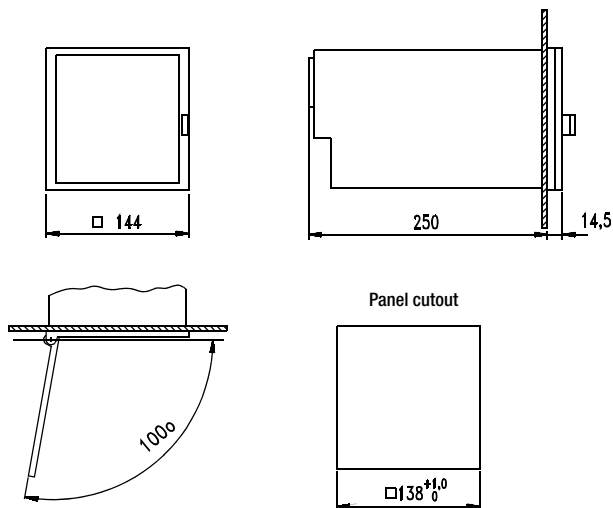
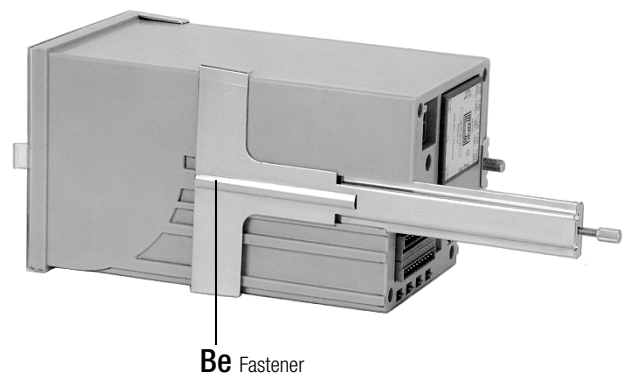

Figure 2 Dimensional drawing LINAX 4000L (dimensions in mm)
Figure 3 Mounting the fasteners
(see Figure 2 and Figure 3)
2. At the sides of the case, slide the fasteners **Be** into the guide grooves (see Figure 3).
2. Slide the fasteners **Be** into the guide grooves at the sides of the case (see Figure 3).